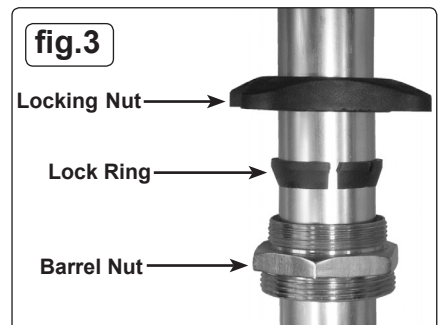

fig.3
- 4.2.5. Slide the locking nut, locking ring and the barrel nut onto the pick up probe of the pump (fig.3), screw the locking nut onto the barrel nut to lock the assembly to the pick up probe.